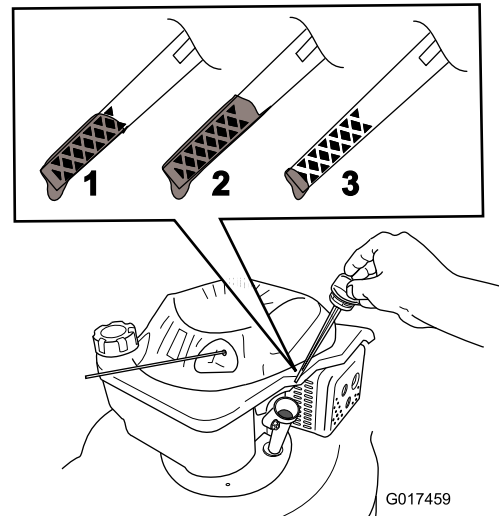

Figure 11
5. To determine the proper oil level on the dipstick, refer to Figure 11).
- Note:** Fill the engine crankcase with oil until the dipstick indicates that the engine oil level is correct as shown in Figure 11. If you overfill the engine with oil, remove the excess oil as directed in Changing the Engine Oil.